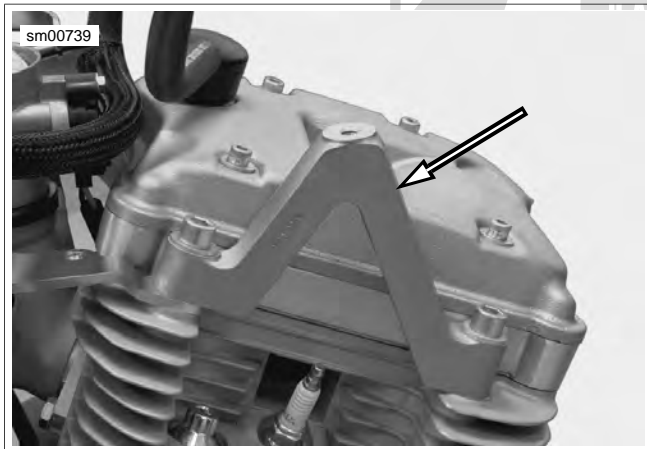

Figure 3-25. Center Tie Bar Mount
- b. See Figure 3-25. Install center tie bar mount with fasteners and tighten to 30-33 ft-lbs (40.6-44.7 Nm).